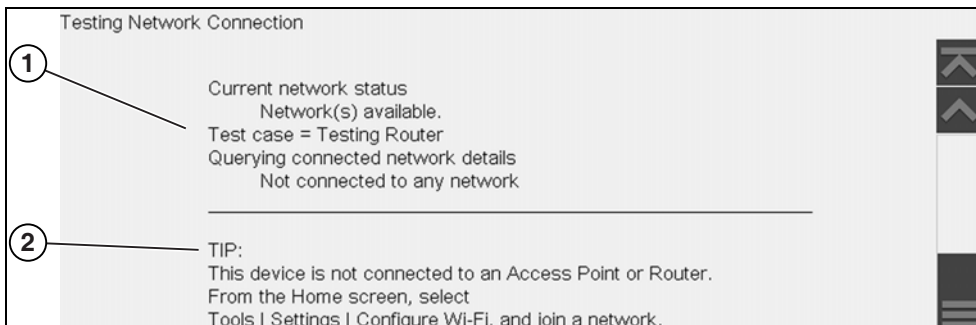

Figure 13-5 View Summary
- If a connection issue(s) is present, select **View Summary** to review the results. The summary information is helpful if you are experiencing difficulties with your connection (Figure 13-5). Scroll through the summary information to review the test results for each system and Tip messages for the current connection issue. See *Connection Tests - Troubleshooting* chart in “Wi-Fi Troubleshooting and Status Messages” on page 120 for additional information.